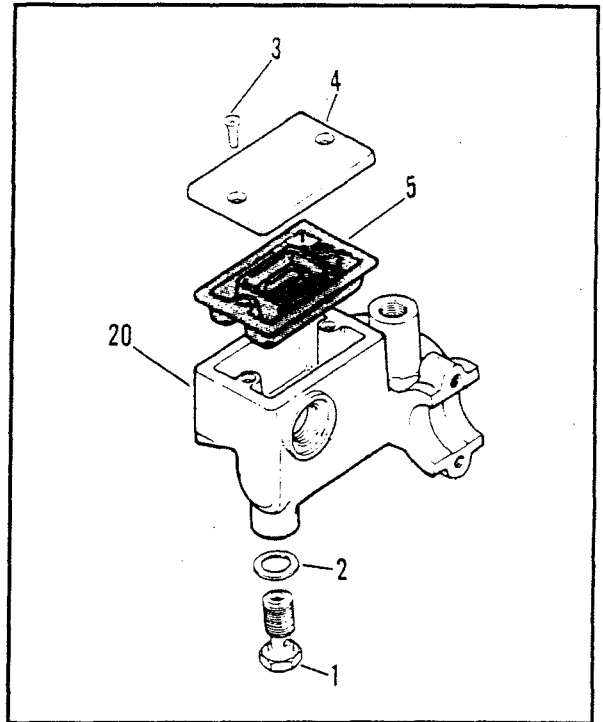

Figure 5-82. Master Cylinder/reservoir Assembly
See Figure 5-82. Be sure washer (2), banjo bolt (1), hydraulic brake line and master cylinder bore are free of D.O.T. 3 hydraulic brake fluid, dirt and metal chips before assembly to avoid leakage.
6. Install banjo bolt (2), washer (2) and hydraulic brake line in master cylinder/reservoir.